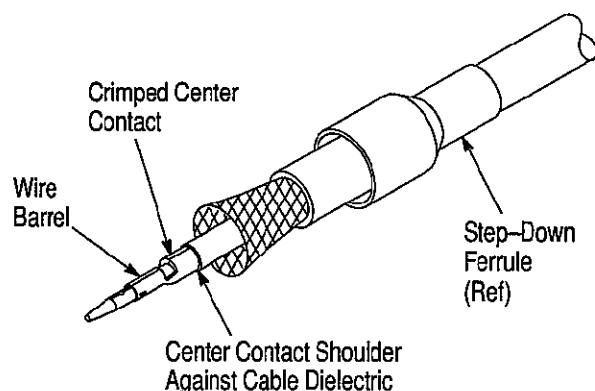

Figure 3
Slide the step-down ferrule onto the unstripped cable with the small diameter end first. Refer to Figure 3.
- Insert center conductor into center contact. The center contact shoulder must be positioned against the cable dielectric as shown in Figure 3. Be sure the cable insulation does not enter the center contact wire barrel.